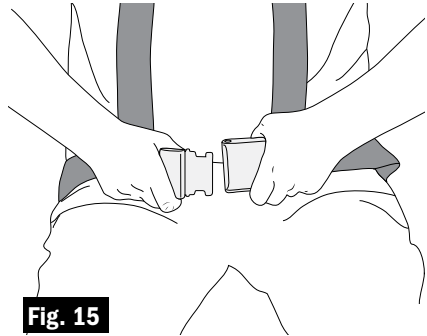

Fig. 15
- b. Insert tongue into buckle until you hear a **CLICK**. (Fig. 15)